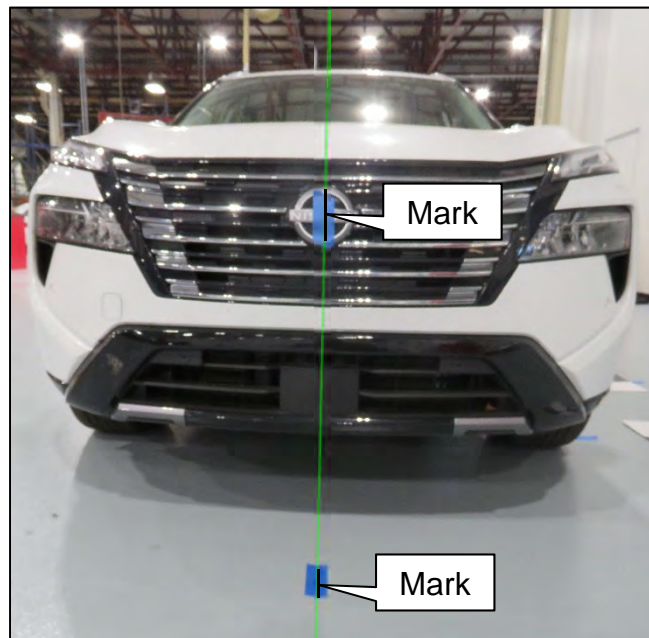

Figure 61
42. Apply painter's tape and mark the NISSAN emblem and the floor near the front fascia, as shown in Figure 61.